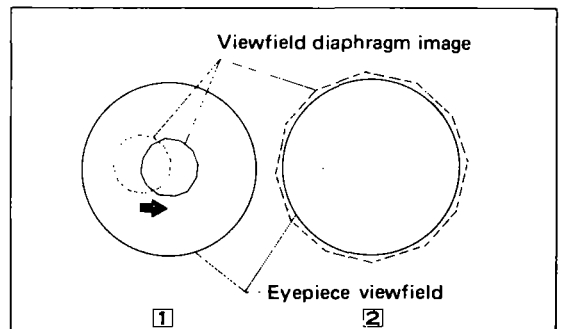

Fig. 19
- 4) Open the field diaphragm up to the same area as the eyepiece viewfield. If it is found decentered, use the field diaphragm centering screws for exact centering. (Fig. 19)